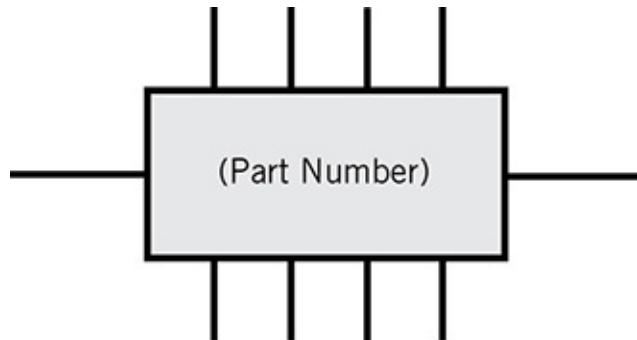

FIG. 3-45 Generic symbol for an integrated circuit (IC).
An *operational amplifier* or *op amp* is a specialized *integrated circuit* (IC) that comprises bipolar transistors, resistors, diodes, and/or capacitors, all connected together to produce or modify a signal. (Myriad types of ICs exist besides the op amp. Figure 3-45 shows the general symbol for an IC.) Sometimes you'll find two or more op amps in a single IC package; for example, you might encounter a *dual op amp* or a *quad op amp*.